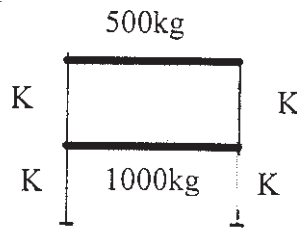

Figure 4.1
**Q4)** For the two degree freedom system shown in Figure 4.1, obtain natural frequencies and amplitude ratios. Assume  $K = 20 \text{ kN/m}$ . [16]